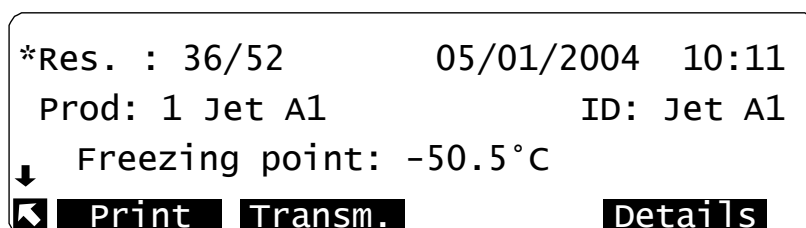

Figure 10: Display of the Results menu.
- 1.Press the button for the **Results** menu of the main level screen 1; this calls up the display allowing access to all the results saved, which are shown as the display below (Figure 10).
From the display of the **Results** menu (Figure 10 page 3-37) press the **Print** key, the following display appears: